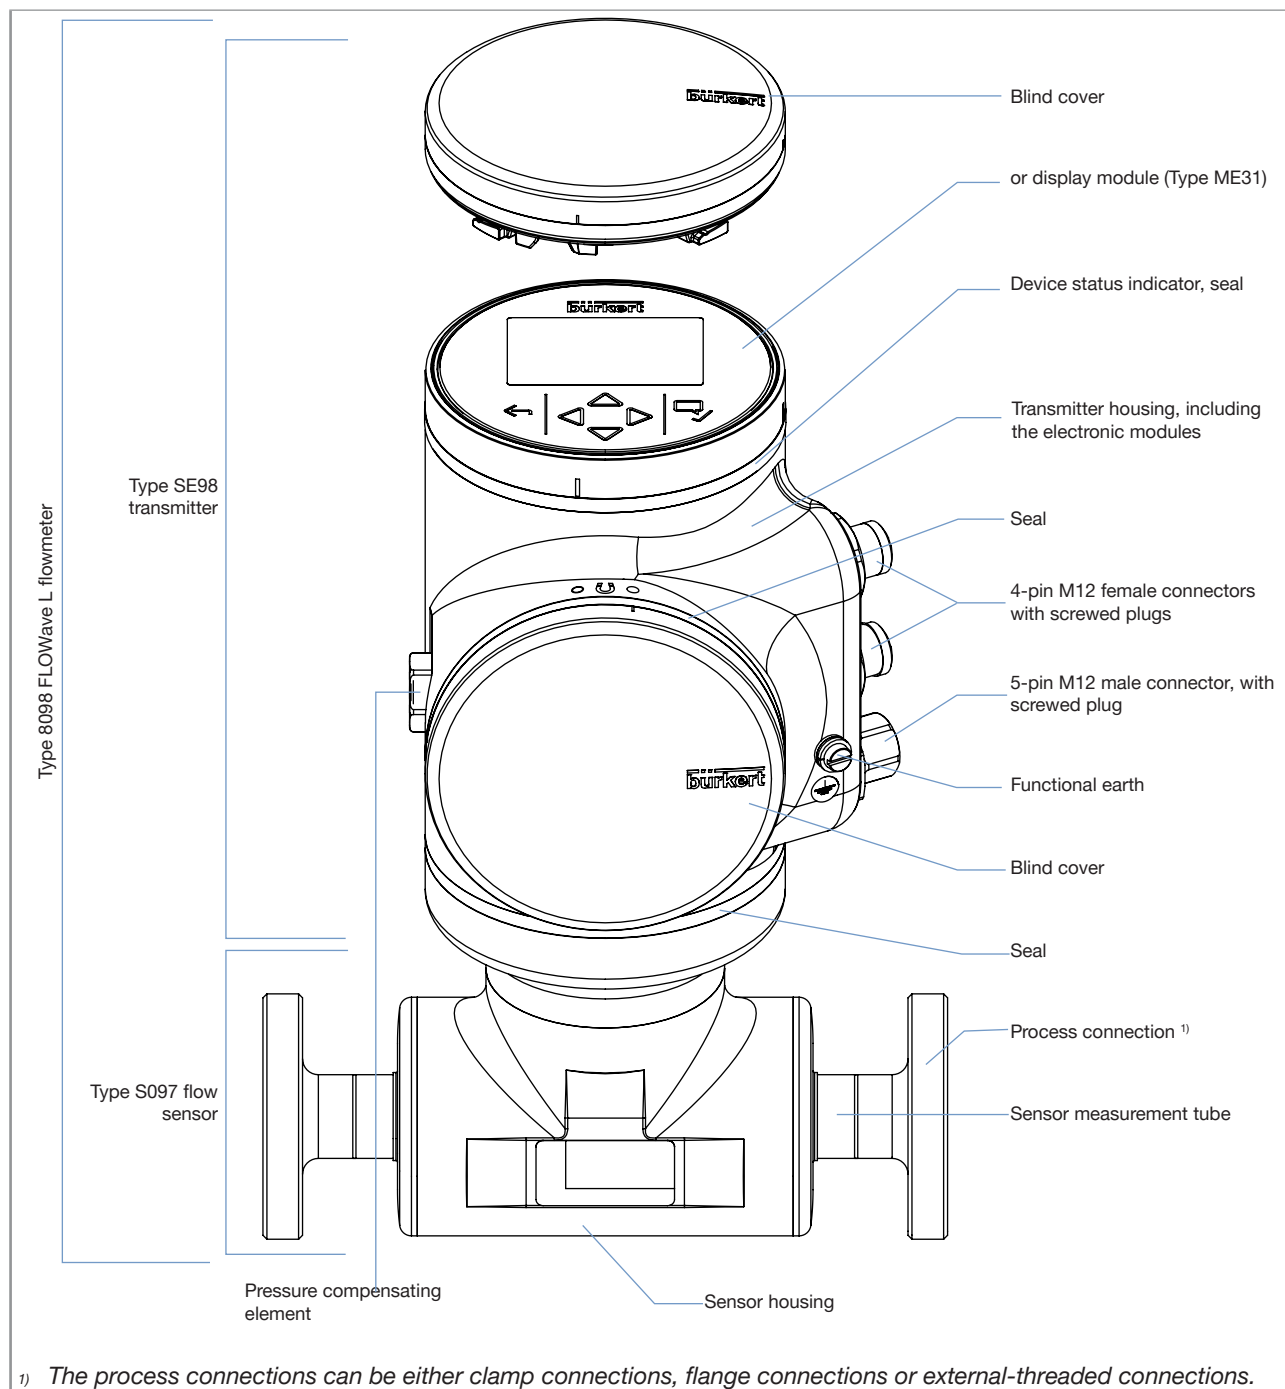

Fig. 2: Description of an Ethernet device variant, with two 4-pin M12 female connectors and one 5-pin M12 male connector
- Fig. 2 describes the Ethernet device variant, i.e. a device with two 4-pin M12 female connectors and one 5-pin M12 male connector.